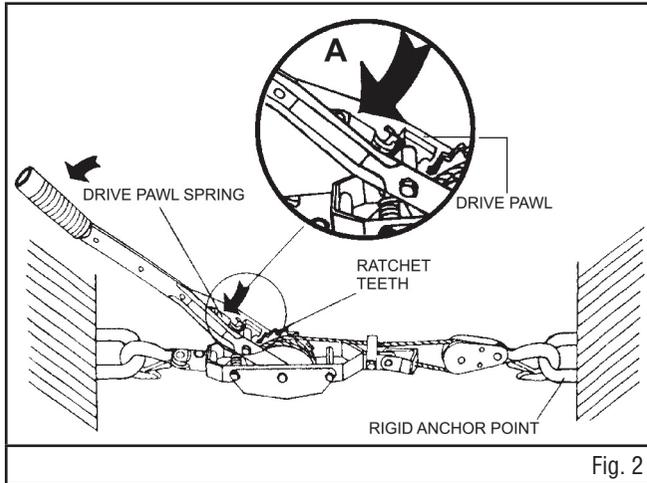

Fig. 2
1. Depress the pawl spring in the direction of the arrow "A". See figure 2.